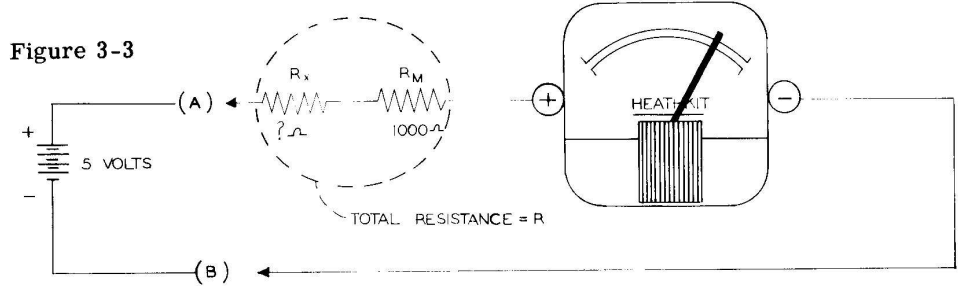

Figure 3-3
Again, it must be realized that when the test leads (A) and (B) of the EK-1 meter are connected to a 5 volt DC source, only 1 milliampere must be allowed to flow through the meter. For this reason, Rx must be inserted in the circuit. See Figure 3-3.
The total required circuit resistance (R) is 5,000  $\Omega$ . Since the meter presents 1,000  $\Omega$  to the circuit, an additional resistance of 4,000  $\Omega$  must be included in the circuit. This resistance is indicated as  $R_x$  in Figure 3-3.